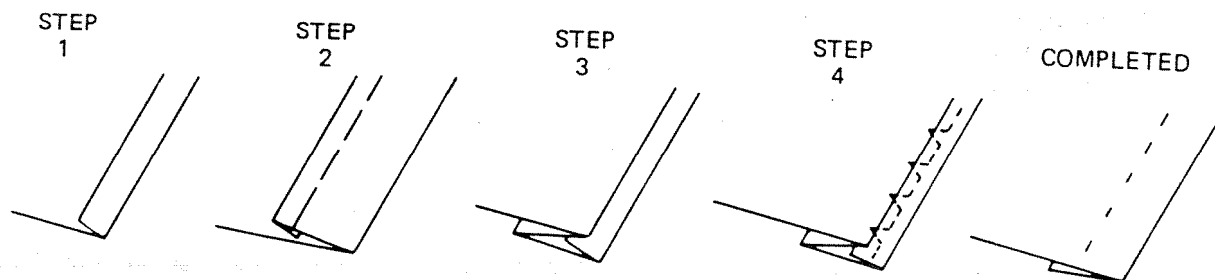

Fig. 46-A
- Step 1. (Fig. 46-A) If hem with folded edge is used make first fold $\frac{3}{8}$ " deep.